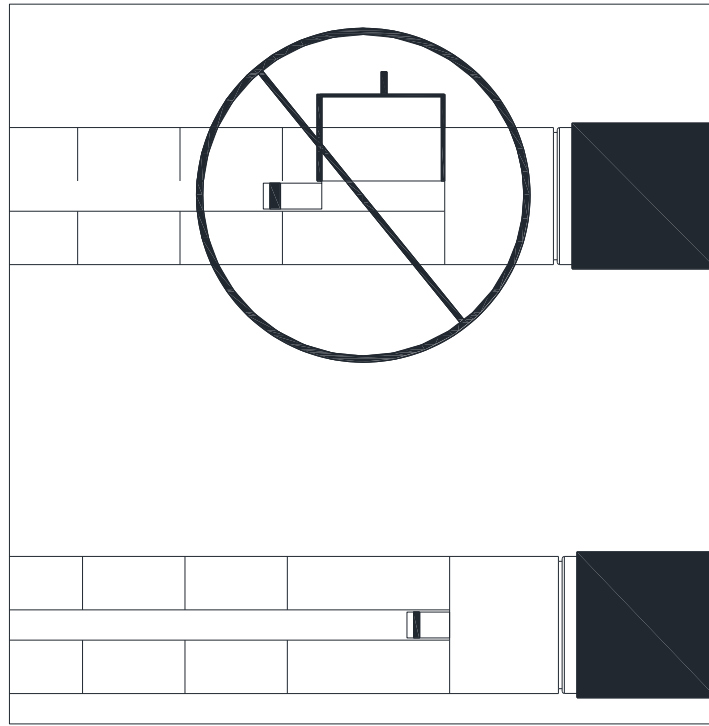

Figure 3-12
- b) If the knife still does not reset, use the manual override. After the manual override is used, the device is disabled and cannot be used for any subsequent firing. To use the manual override, remove the manual operation manhole cover panel on the top of the device. At this time, the manual knife return rod is exposed, and move the rod forward and backward until it cannot be moved (Figure 3-11). The knife is now at the original point. It can be confirmed by observing the position of the knife blade indicator on the bottom of the cartridge jaw (Figure 3-12). Discard the device.